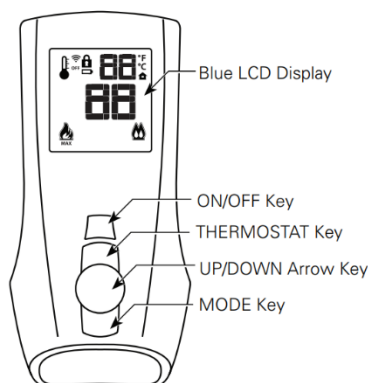
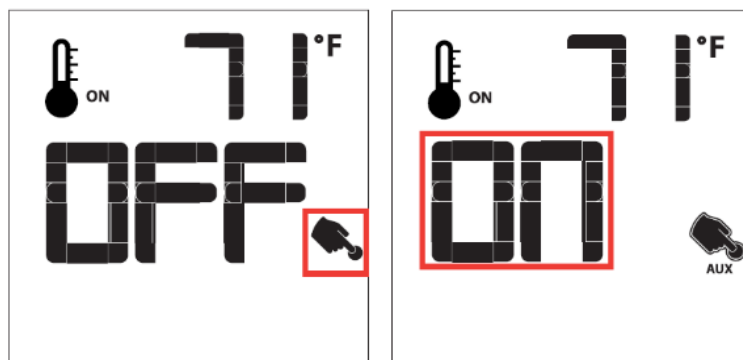
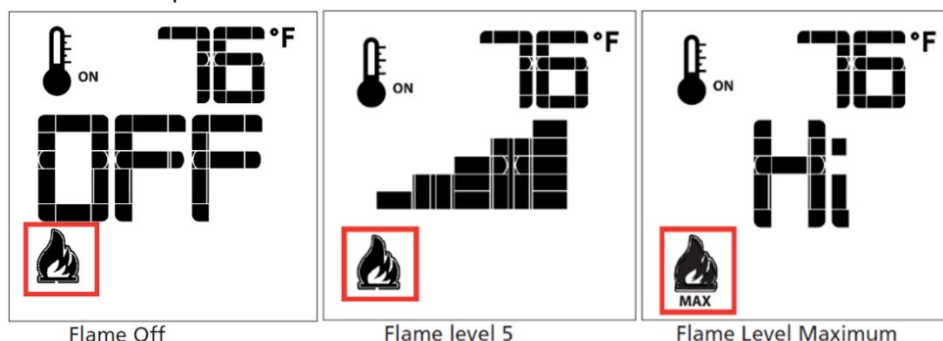
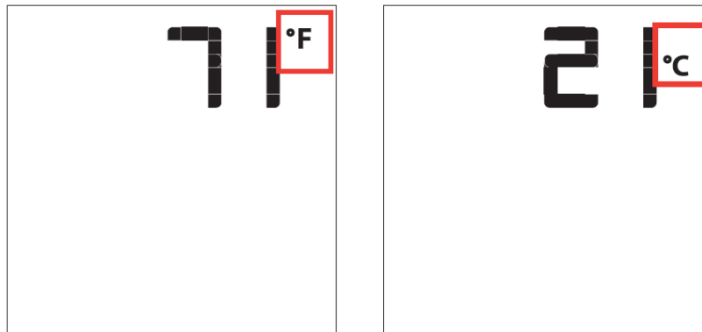

FIGURE 65
FIGURE 66
FIGURE 67
FIGURE 68
Press the ON/OFF key on the Remote (**Figure 65**). A single beep from module will confirm command. Press the MODE Key until AUX icon is visible (**Figure 66**). Pressing the Up Arrow Key will turn the AUX FROM "OFF" to "ON" and this will activate the ADC100 to power on the fan and damper. Press the MODE Key until Flame Level screen appears (**Figure 67**) then press the ON/OFF key to turn off system. The fireplace system will now initialize once the remote "ON" key is pressed.
The system has six (6) flame levels. See (**Figure 67**) for an example. With the system on, and the flame level at the maximum in the appliance, pressing the Down Arrow Key once will reduce the flame height by one step until the flame is turned off. The Up-Arrow Key will increase the flame height each time it is pressed. If the Up Arrow Key is pressed while the system is on, but the flame is off, the flame will come on in the high position (**Figure 67**). A single "beep" will confirm reception of the command.
With the system in the “OFF” position, press the Thermostat Key and the Mode Key at the same time (**Figure 65**). Look at the LCD screen on the Remote to verify that a C or F is visible to the right of the Room Temperature display (**Figure 68**).